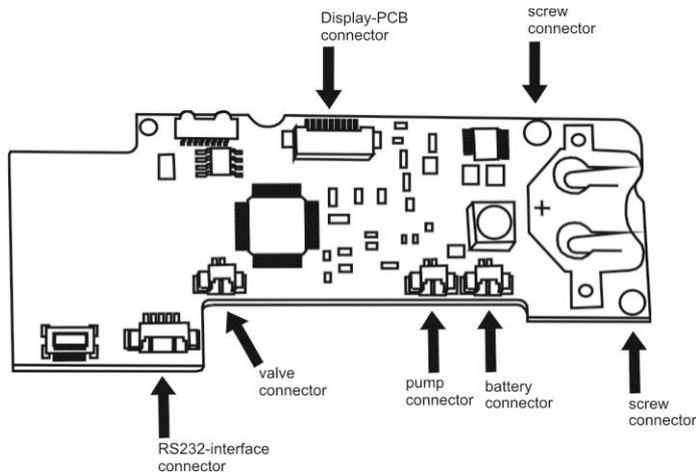

Fig. 18
- Disconnect the wire-to-board connectors on the mainboard and remove the 2 screws (see Fig. 18).